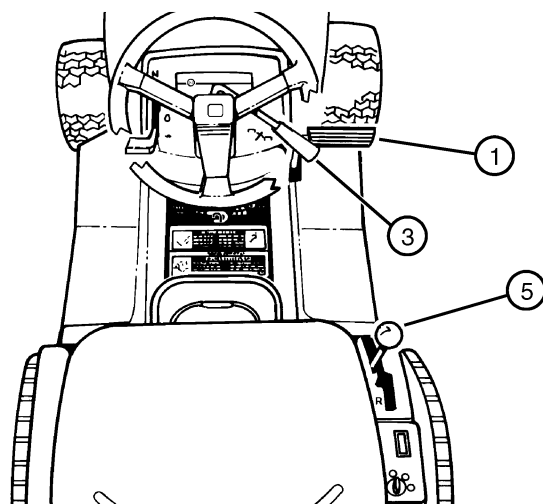

FIG. 14
- To travel forward: unlock park brake, move automatic drive lever (5) to the right and forward. (See FIG. 14) The speed of the tractor is determined by how far forward the drive lever is moved. Return lever to N (Neutral) to stop tractor.
- To travel forward: Push clutch/brake pedal (1) all the way forward to brake position. (See FIG. 14)
- First gear (1) - slowest speed/highest power.
- Second gear (2) through fourth gear (4) - general mowing.
- Fifth gear (5) - driving tractor for transport. Make sure the mower deck is raised to the highest position and the mower blade is disengaged.
- Reverse (R) - backing to avoid objects.
- Move shift lever (5) to the right and forward to desired